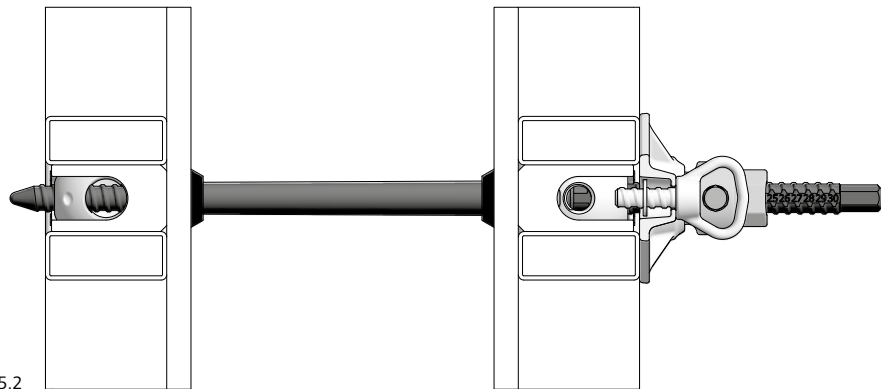

Fig. 15.2
- Single-sided tying with XT taper tie 20 or 23 without plastic tube (Fig. 15.2)